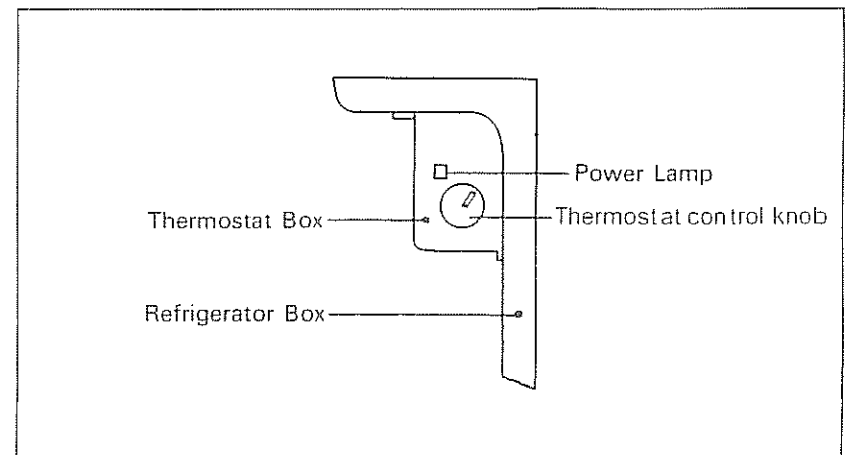

Fig. 7
3. Set the thermostat box on side wall of the refrigerating box, within reach, referring to (Fig. 7) Turn the thermostat control knob to the "off" position.